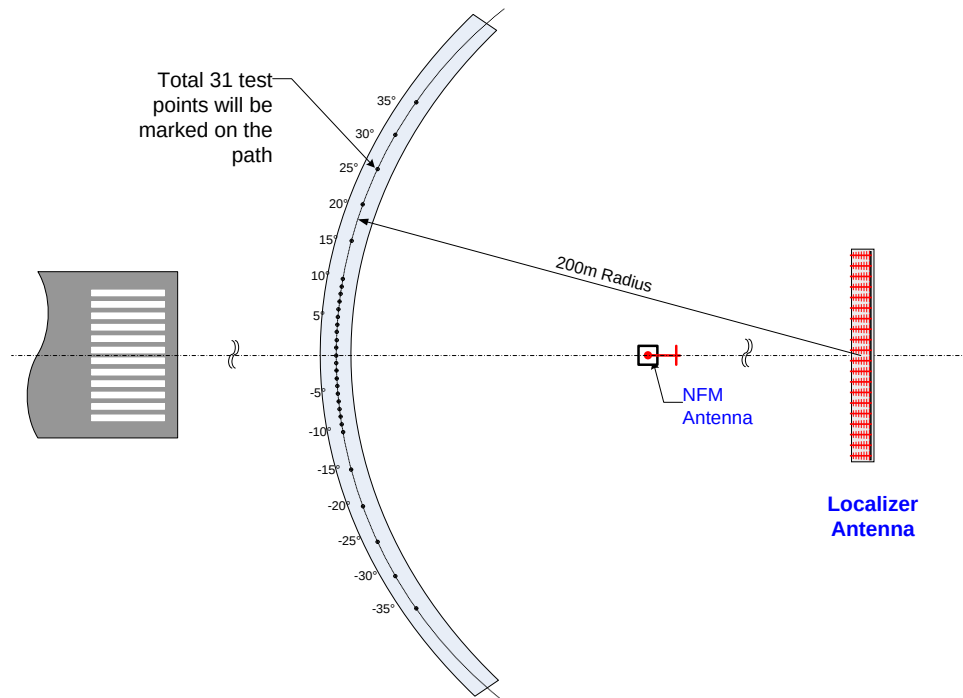

Figure 1 - Near Field Test Points
- Using the PIR with field antenna, measure the field modulation at each of the fixed near field test point (see Figure 1)